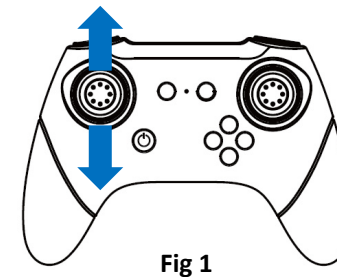

Fig 1
- Push the left control stick upwards for **one second** and then push the left control stick downwards for **one second** (Fig 1). The remote control will beep, and the LED light on the Drone will stop blinking. The LED will change to solid green, this means that the Drone and the remote control is now paired successfully.